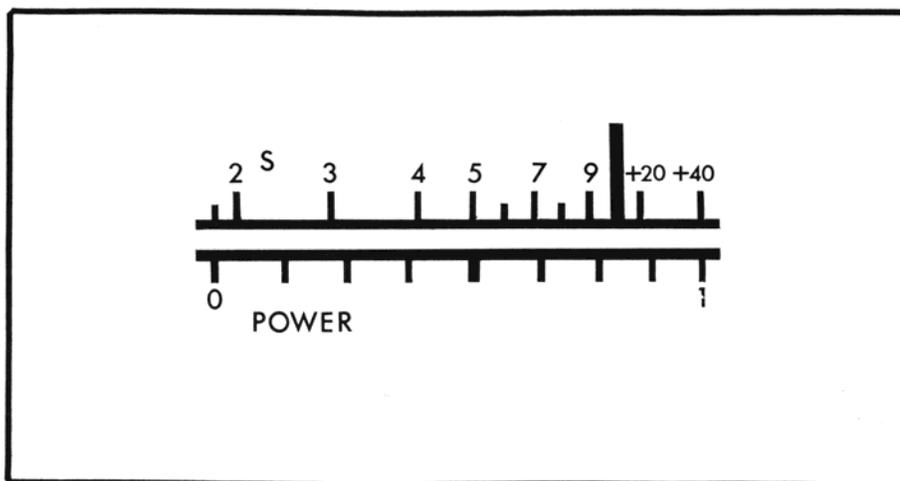

Figure 4-1. Meter Dial
- d. Adjust the generator output for an approximate mid-scale indication (5) on the "S" meter. See Figure 4-1.
- d. With the P-T-T button depressed, adjust VR5 for the same reading on the meter RF scale as on the wattmeter. (Refer to Figure 4-1). Note that the heavy mark in the approximate center of the lower scale is 4 watts.